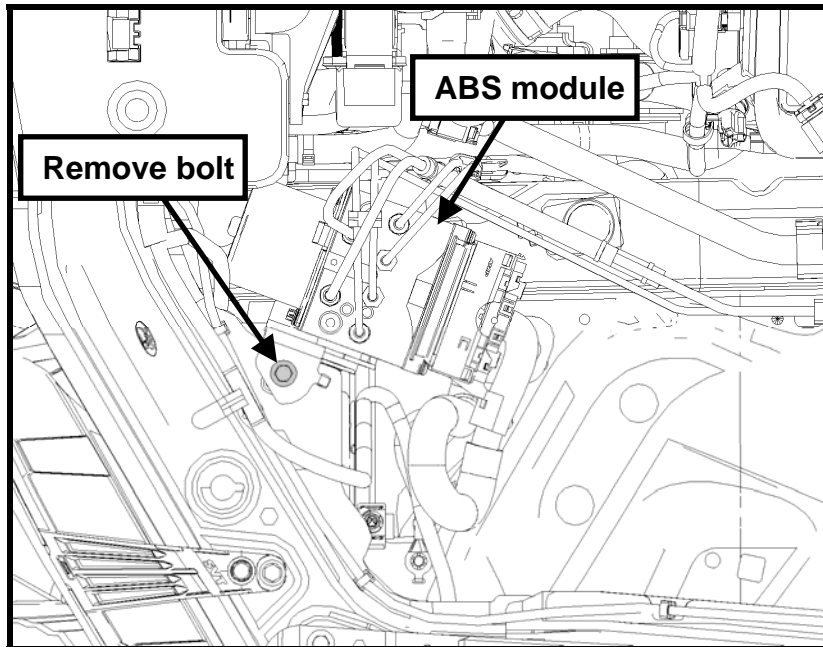

Fig. 33
STEP 17: Locate the ABS module bracket and remove the bolt shown below (See Fig. 33).